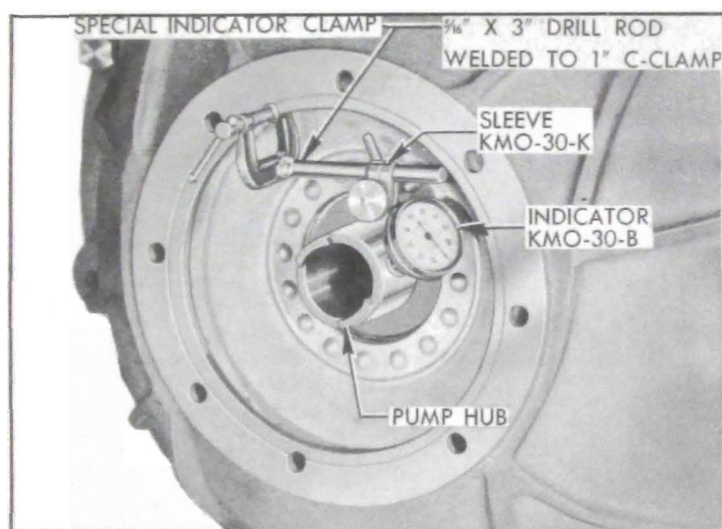

Figure 4-23—Checking Run-Out of Converter Pump Hub
3. Prepare a special dial indicator clamp by welding a piece of  $\frac{5}{16}$ " x 3" drill rod to a 1" C-clamp. Use the special clamp and Sleeve KMO-30-K to mount Dial Indicator KMO-30-B so that indicator stem bears against the pump hub as shown in figure 4-23.